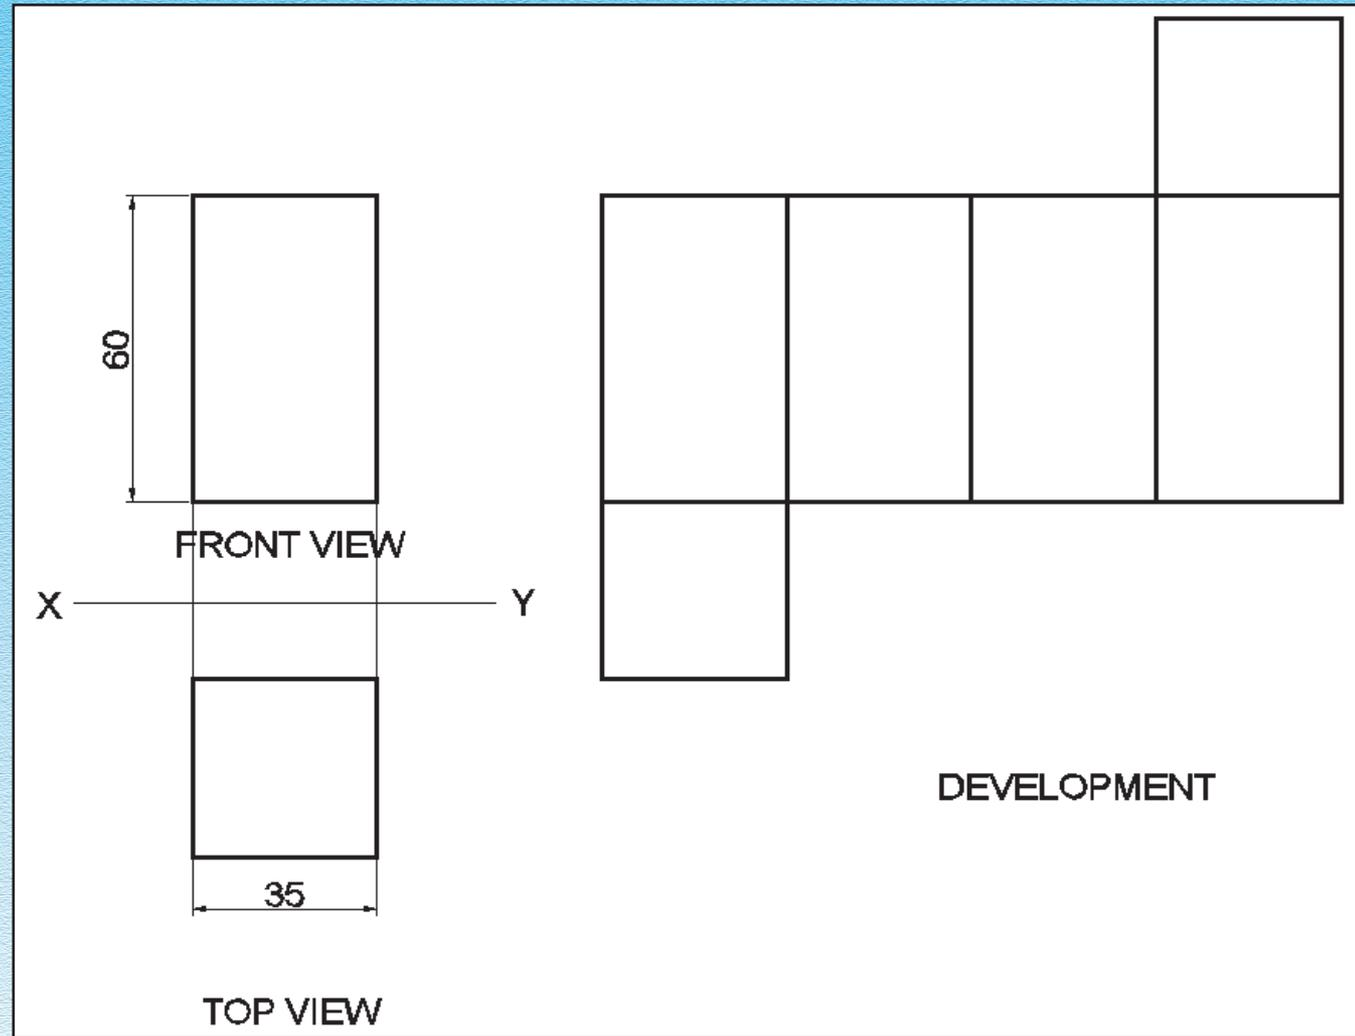

Fig. 8.5
Solution : Refer to fig. 8.5
1. Draw the Front View and Top View of the square prism as shown in Fig. 8.5 (a)